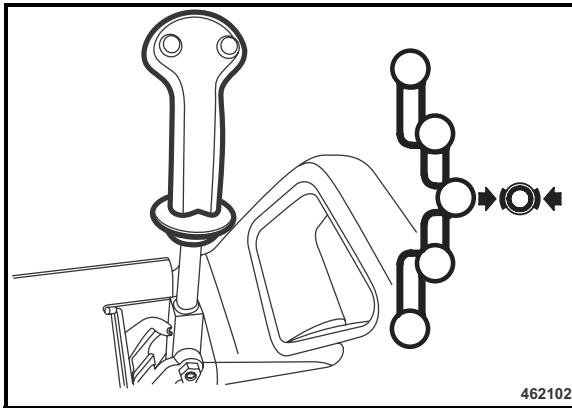

Fig. 53
- Shift the travel lever (Fig. 53) to parking brake position.